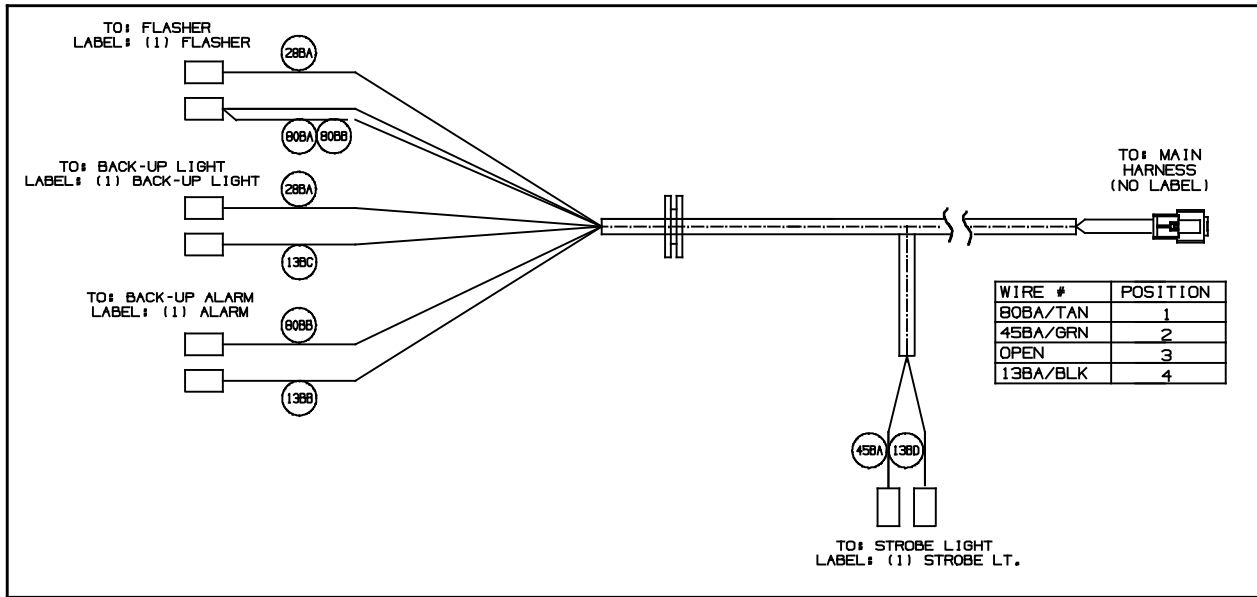
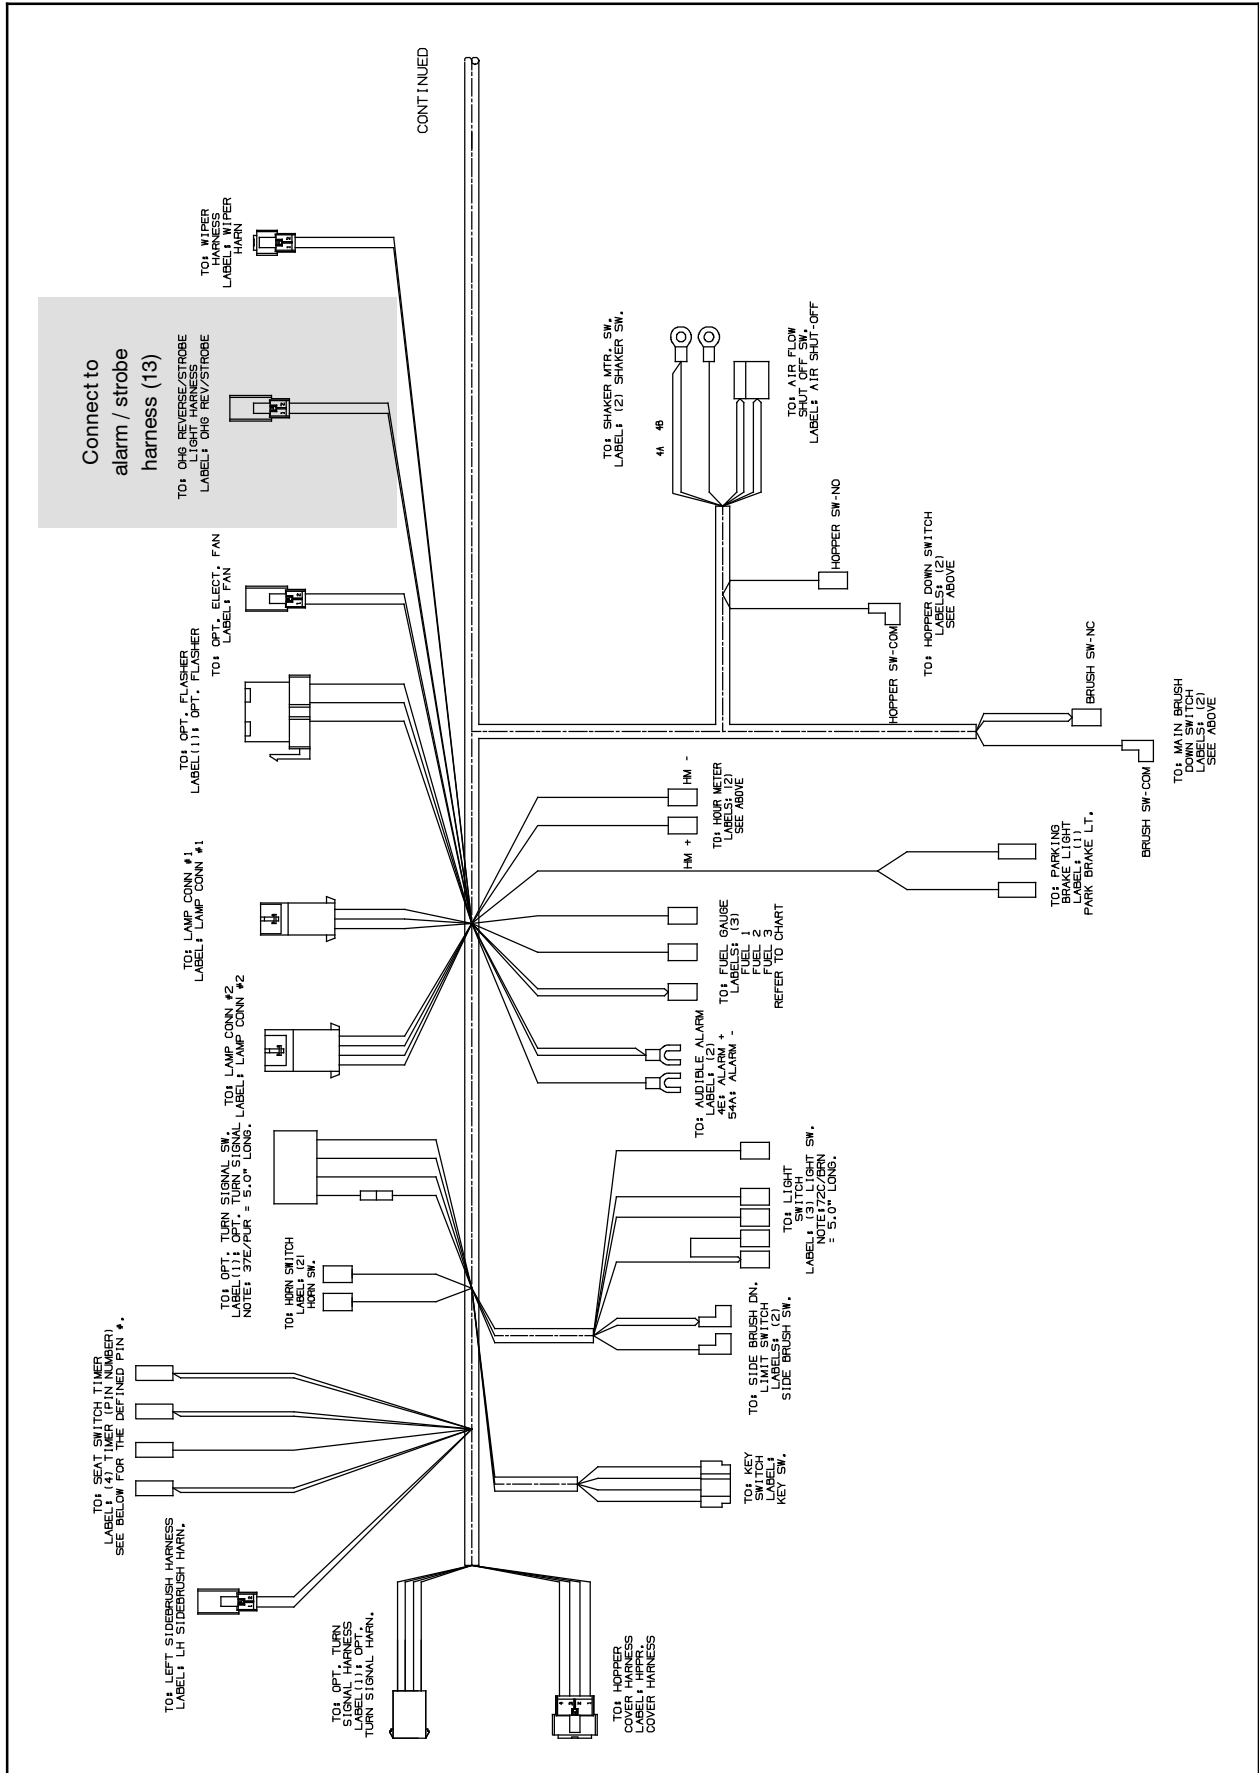

FIG. 6
FIG. 14
- Connect the alarm / strobe harness (13) to the strobe light (17). (Fig. 5 / Fig. 6)
- Connect the alarm / strobe harness (13) to the backup alarm (1), spot light (16), and 12 VDC flasher (8). (Fig. 3 / Fig. 6)
19. Connect the alarm / strobe harness (13) to the main wire harness. (Fig. 6 / Fig. 14)
20. Connect the main wire harness to the snap switch (10). (Fig. 12 / Fig. 14)